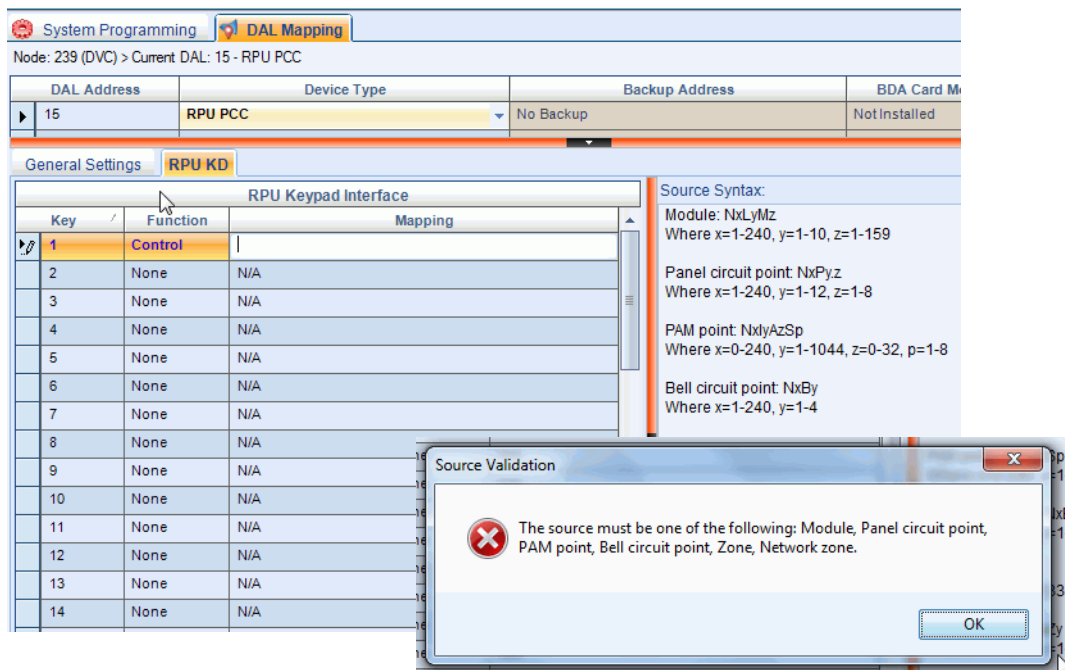

Figure 3.9 DAL Mapping - RPU-KD Keypad Assignment
- **MAPPING** - Enter an address to be controlled, monitored, or disabled as set in the Function field. This must be the address of a specific module, detector, panel circuit point, zone, DAL speaker circuit, or PAM point. VeriFire Tools will validate the mapping's syntax and source type on entry. Once a Function type is selected, the right side of the screen will display a summary of correct syntax (relevant rules for mapping an appropriate device). The settings will be shared with all the DVC-RPUs connected to the DAL network at the network node address. The syntax for each type of entry is in Table 3.1 below; this is also available on the right side of the VeriFire Tools screen as shown in Figure 3.9.